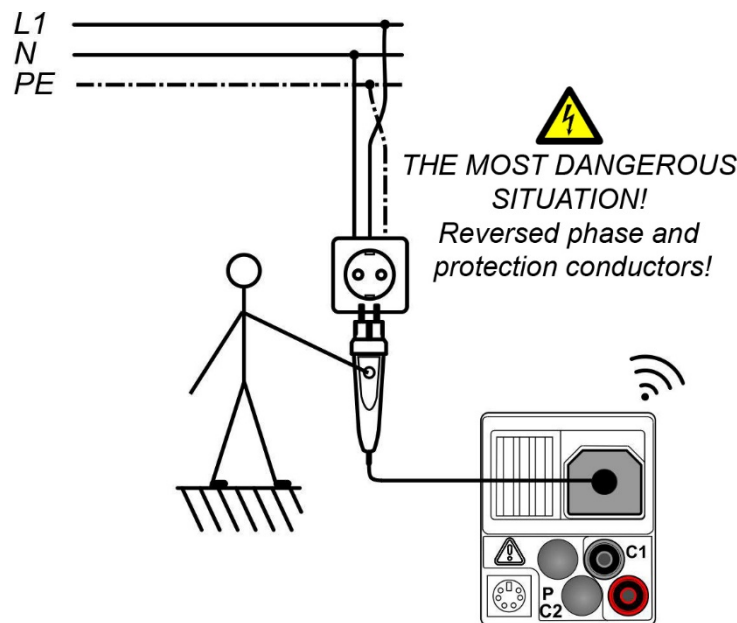

Figure 5.36: Reversed L and PE conductors – Phase voltage at the PE conductor is detected by touching the "TEST" key of the "Commander" test plug (optional).
**Testing the protective conductor connection (PE)**
- ❑ Connect the test cables to the test object (see figure 5.36 and 5.37).
- ❑ If the phase voltage is detected at the protective conductor connection (PE), immediately stop all measurements and make sure that the fault will be eliminated.